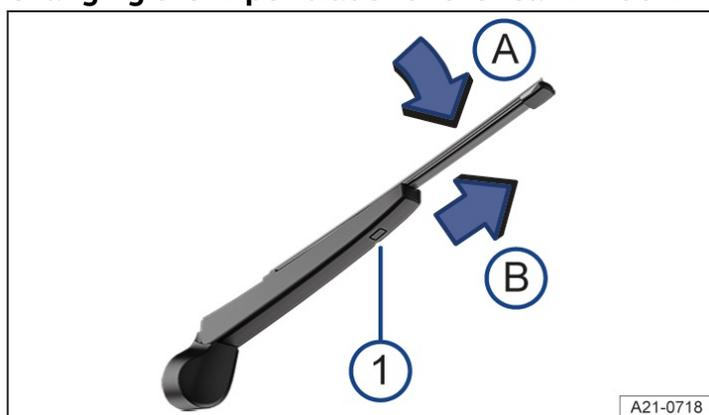

Fig. 2 Changing the wiper blade for the rear window.
① Release button for the wiper blade.
3. Press and hold the release button → Fig. 2 ①.
4. Tilt the wiper blade in the direction of the wiper arm → Fig. 2 ② and pull it off in the direction of the arrow ③ at the same time. You may need to use some force to do this.
5. Insert a new wiper blade with the same length and design onto the wiper arm against the direction of the arrow. Push it on until it engages → Fig. 2 ④. The wiper blade must be in folded-down position to do this → Fig. 2 ⑤.